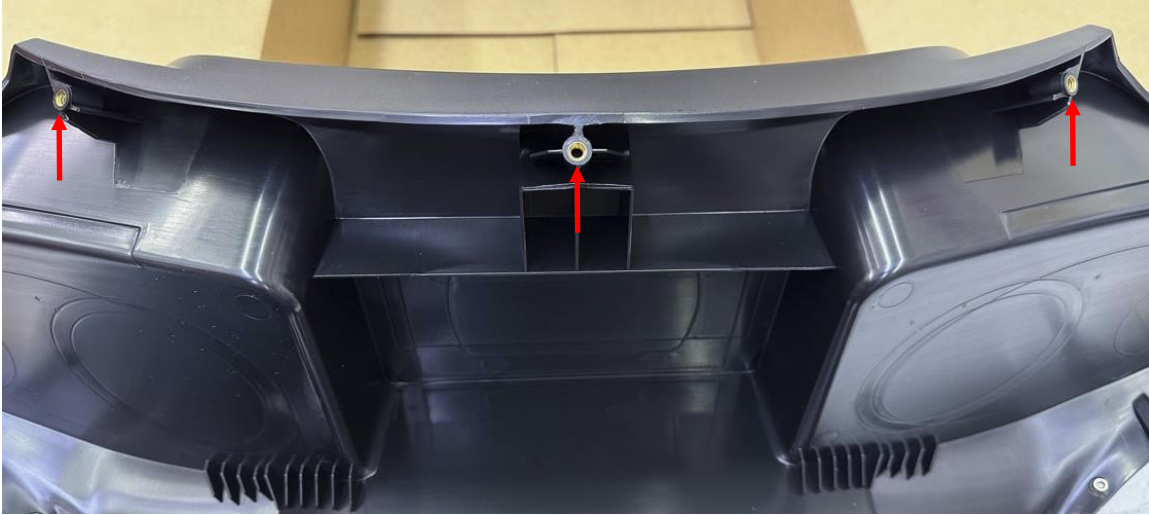

Figure 6: Windshield screw bosses on inner fairing keep windshield in place.
11. Carefully spread the inner and outer fairing to slide the windshield into place. Note: There are bosses around the screws to keep the windshield in place but still allow slight movement. See Figure 6.